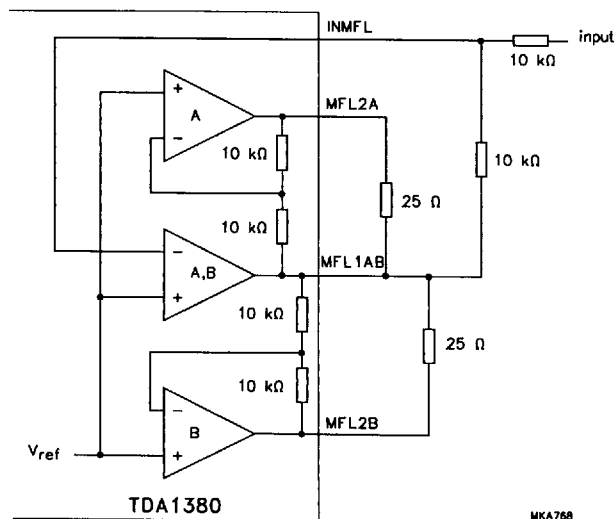

Fig.9 Principle of the feedback amplifiers and TEST circuit.
- Closed loop, unity gain, $R_L = 25 \Omega$, in accordance with Fig.9.